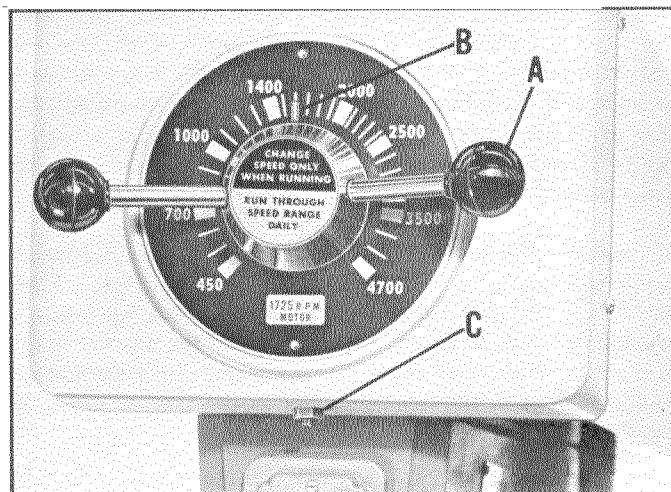

Fig. 2
The pilot wheel (A) Fig. 2, for Variable Speed Drive, should not be turned except when the motor is running, to avoid putting unnecessary strain on the variable speed drive belt and variable speed drive pulley assembly. The pilot wheel is turned clockwise to make the drill press run faster, and counter-clockwise to slow it down.
While changing speeds the pointer (B) Fig. 2, will indicate speed of the drill press.